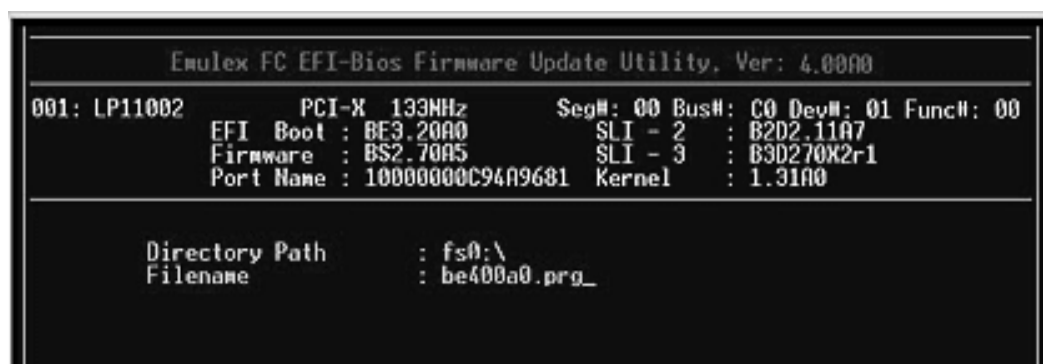

Figure 60: Directory Path and Filename Information
3. Enter the directory path and filename in the screen that is displayed (Figure 60). Press <Enter>.